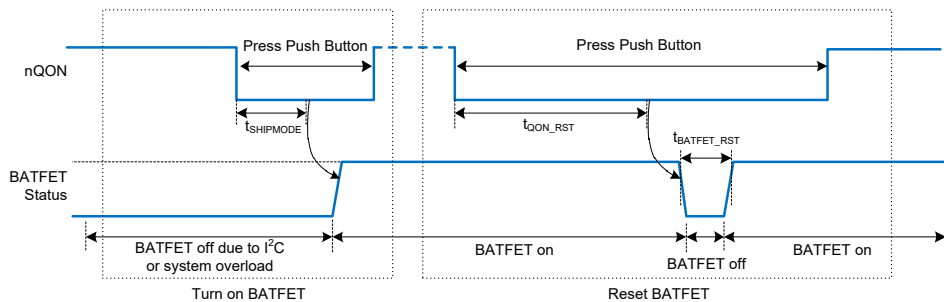

Figure 10. nQON Enable and Reset BATFET Timing
1. Enable BATFET: Applying an nQON logic high to low transition with longer than  $t_{SHIPMODE}$  deglitch time (negative pulse) turns on BATFET to exit ship mode (Figure 10 left). HIZ is also enabled (EN\_HIZ = 1) when exiting shipping mode. After exiting shipping mode, the host can disable HIZ (EN\_HIZ = 0). OTG cannot be enabled (OTG\_CONFIG = 1) until HIZ is disabled.
2. Reset BATFET: By applying a logic low for a duration of at least  $t_{QON\_RST}$  to nQON pin while VBUS is not powered and BATFET is allowed to turn on (BATFET\_DIS bit = 0), the BATFET turns off for  $t_{BATFET\_RST}$  and then it is re-enabled resulting in a system power-on reset (Figure 10 right). This function can be disabled by clearing EN\_BATFET\_RST bit.